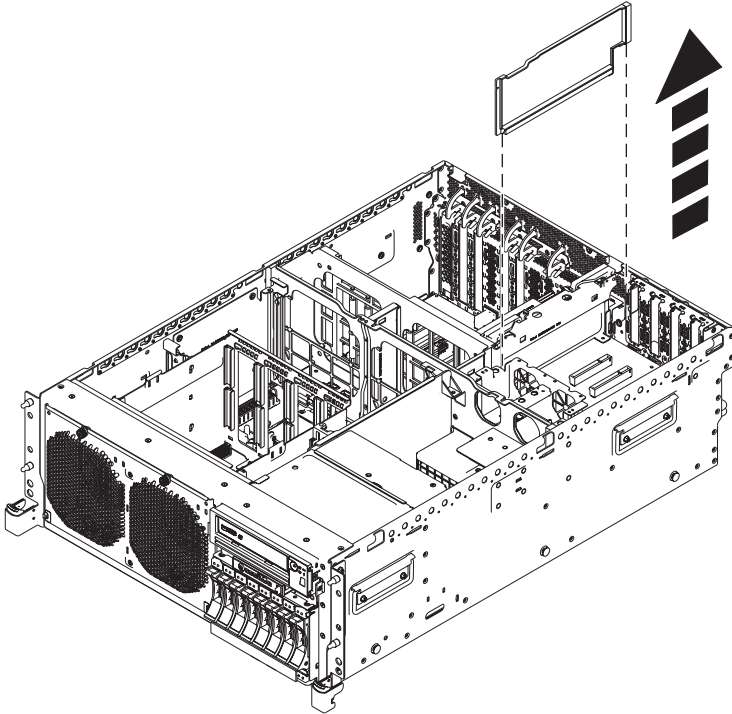

Figure 32. Removing the PCI riser air divider
23. Remove the PCI-riser air divider. Firmly grasp the PCI-riser air divider and lift it upward. See Figure 32 on page 58.